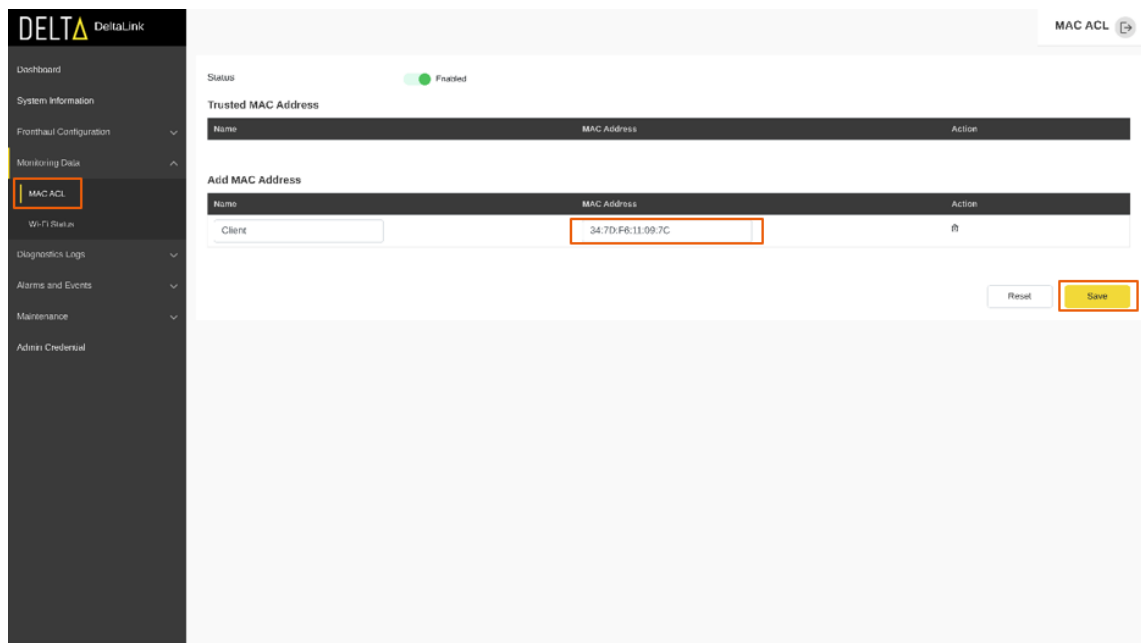

Figure 42 MAC ACL - 3
- d) Select "Save" to apply the configurations as shown in the below Figure 42.